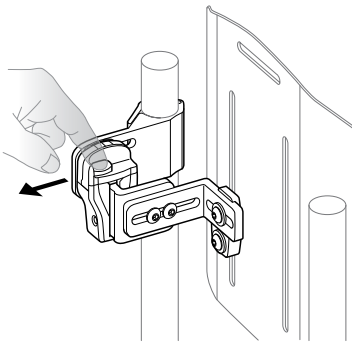

Fig. 11
1. Depress buttons and slide the left and right Slide Caps open. *Fig. 11*